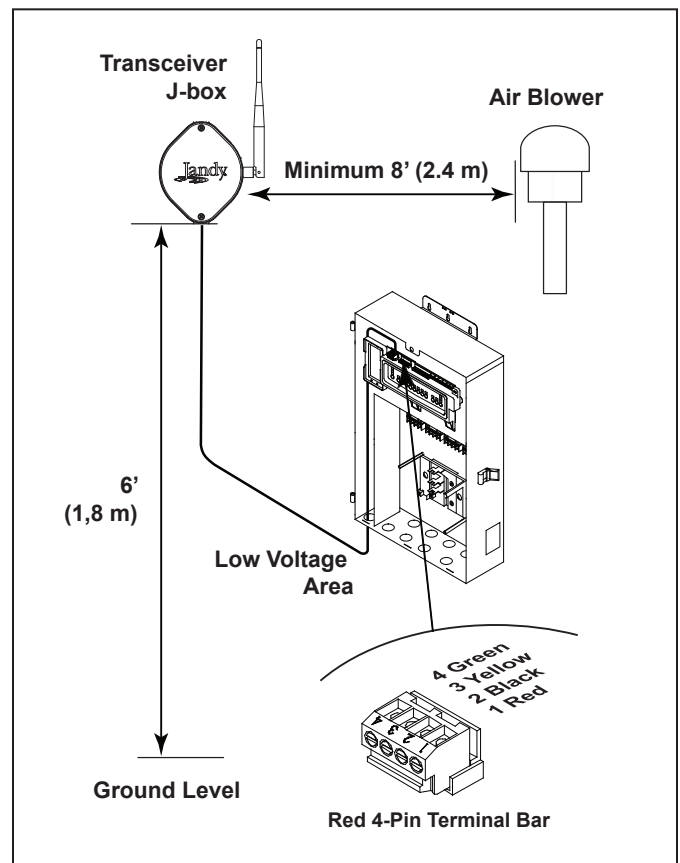

Figure 5. Outdoor Transceiver J-box Installation
2. Mount the outdoor transceiver J-box at least six (6) feet above the ground and at least eight (8) feet from an air blower, and at least five (5) feet away from other transceiver J-box. See Figure 5.